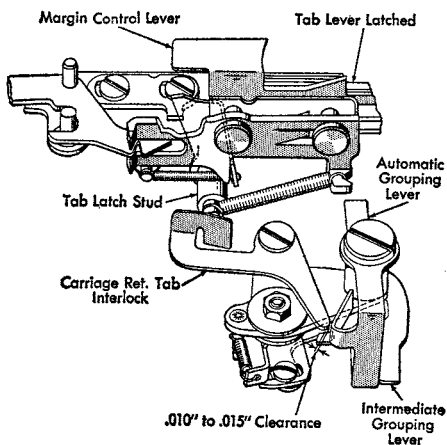

Figure 25. Carriage-Return-Tab Interlock Adjustment
7. THE CARRIAGE-RETURN-TAB INTERLOCK should reliably unlatch the clutch whenever the tab lever is moved to its latched position. With the tab lever latched, form the lug on the automatic grouping lever so that it clears the carriage-return-tab interlock by .010" to .015" (Figure 25).